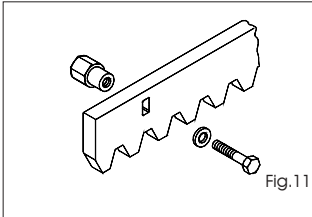

Fig. 11
**5.4.1. Steel rack to weld (Fig. 11)**